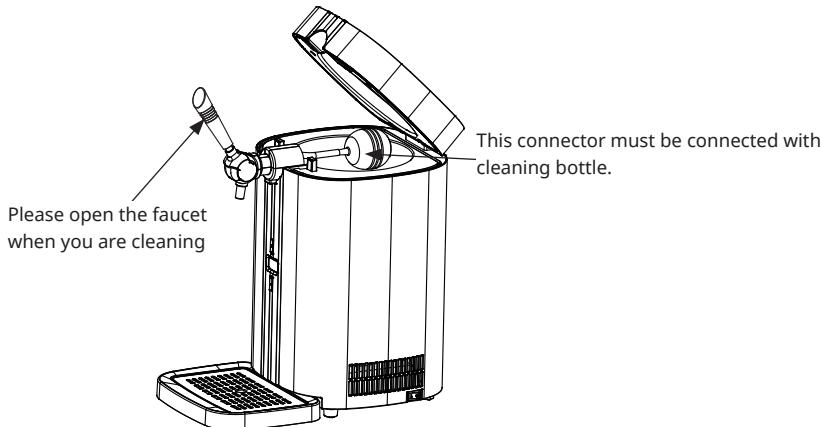

Figure 20
2. Clean the bottle by squeezing the warm water out of the end of the outlet connector, squeezing repeatedly until clean (at least three bottles of warm water); the tap should be open during cleaning (Figure 20).